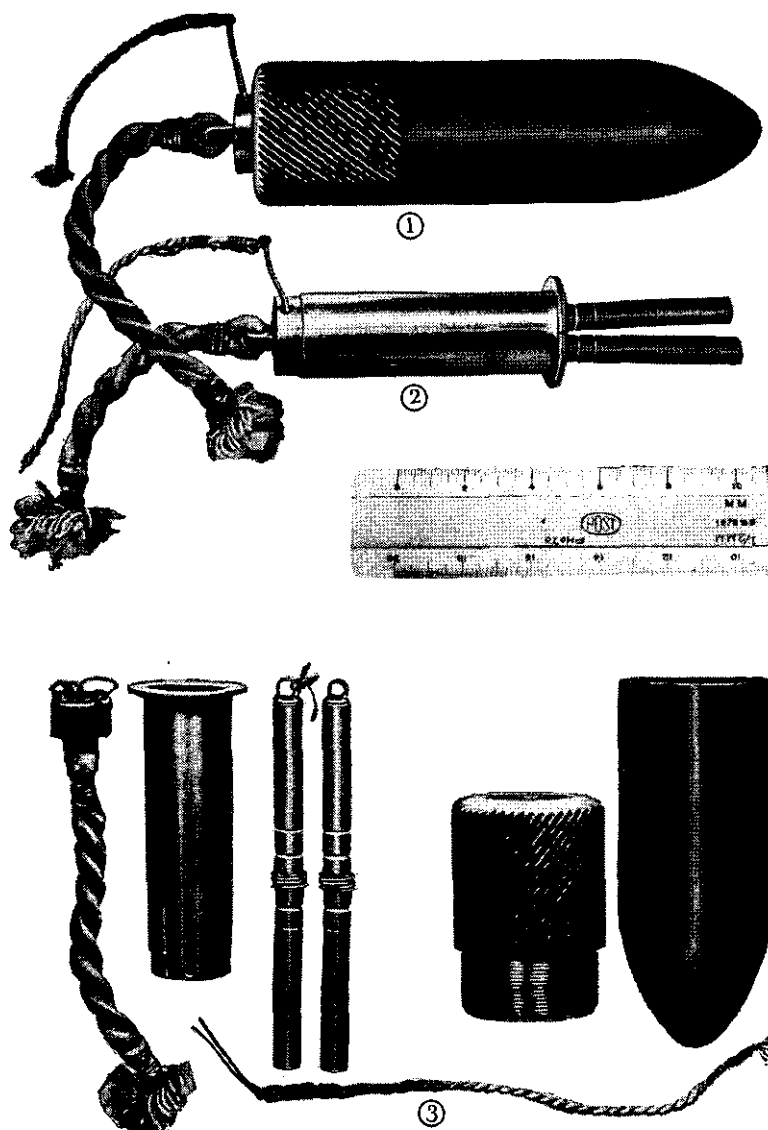

Figure 36.—Fuze used in bangalore torpedo. (The fuze is shown ① assembled for shipment, ② assembled for insertion in pipe, and ③ disassembled.)
(1) *General*.—The fuze of the Bangalore torpedo (fig. 36) is shipped separately. It comprises a cylinder flanged at one end, with two delay tubes projecting beyond the flange, and a braided cord projecting from the other end (fig. 36 ②). For shipment, the delay tubes are covered by a cylinder closed to a point at one end. An open-ended cylinder having spiraled grooves on its surface (fig. 36 ③) is screwed into the pointed cylinder, the end of the fuze with the braided cord projecting through the open-ended cylinder as
shown in figure 36 ①. The pipe containing the explosive is capped at both ends, the caps being removed when the torpedo is made ready for use.